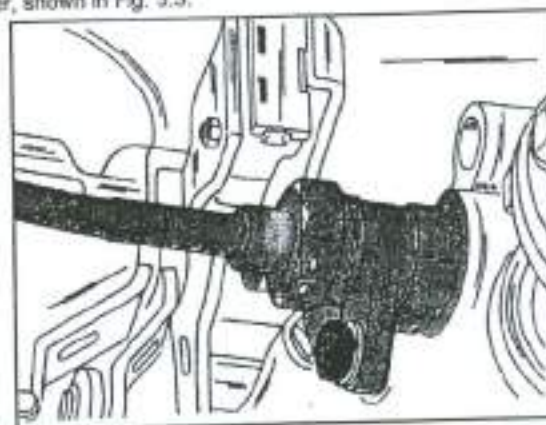

Fig. 3.2 - Speedometer drive cable attachment.
- Detach the cable plug from the reversing light switch and remove the speedometer drive cable (remove one bolt, shown in Fig. 3.2).